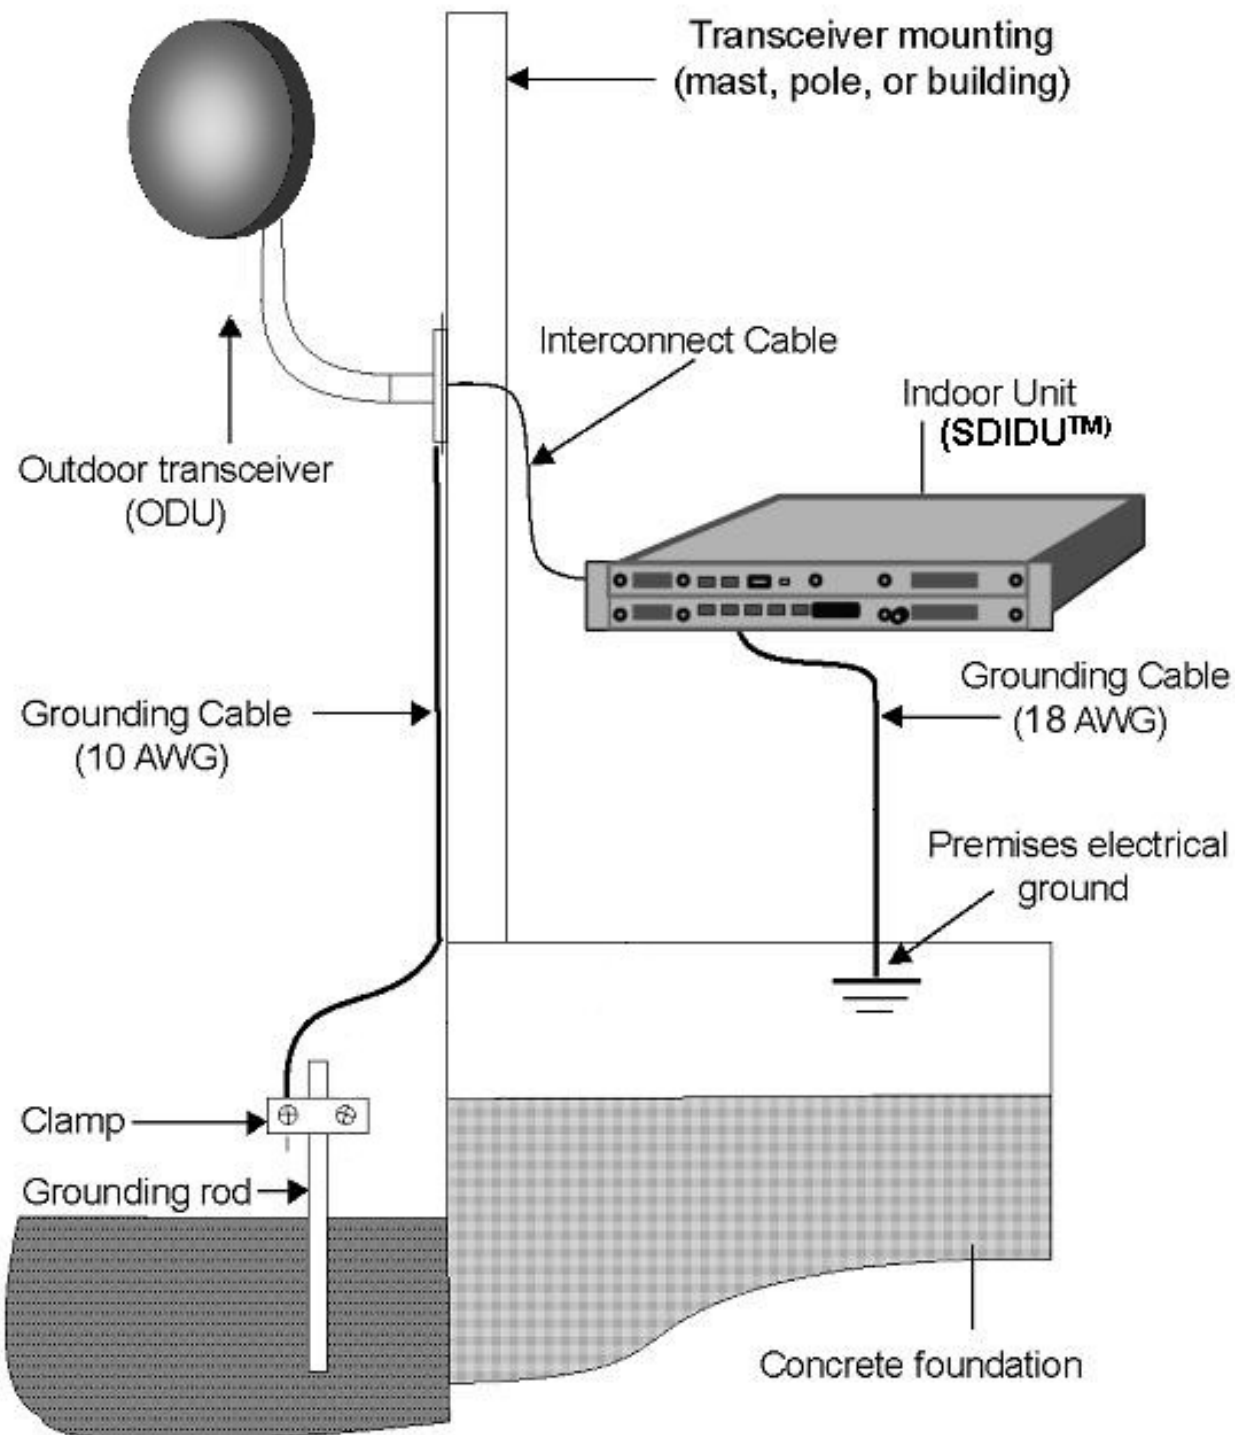

Figure 3-16. Ground Connections to ODU.
3. Attach a grounding clamp to the grounding rod. You will use this clamp to attach grounding wires for both the ODU and indoor junction box, reference Figure 3-16.